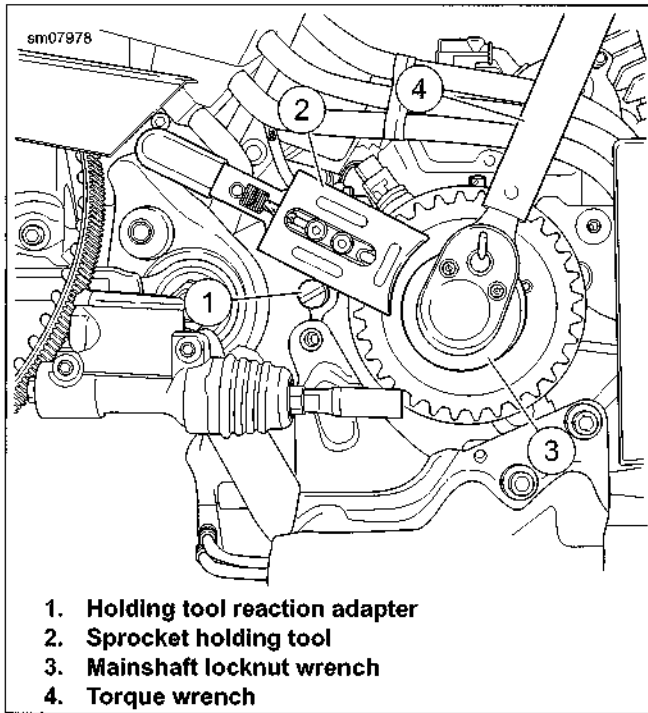
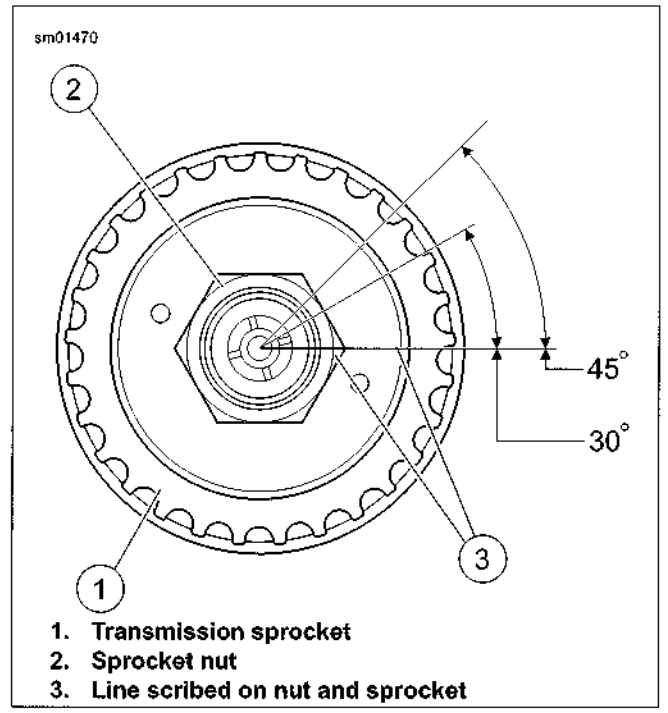

Figure 5-79. Installing Transmission Sprocket
Figure 5-80. Transmission Sprocket Nut Final Tightening Procedure
4. See Figure 5-79. Install sprocket nut.
- a. Install **TRANSMISSION SPROCKET HOLDING TOOL** (Part No. HD-46282) (2). Place handle of tool on top of reaction adapter.
- b. Use a torque wrench (4) with **MAINSHAFT LOCKNUT WRENCH** (Part No. HD-46288) (3).
5. See Figure 5-80. Tighten transmission sprocket nut to specification.